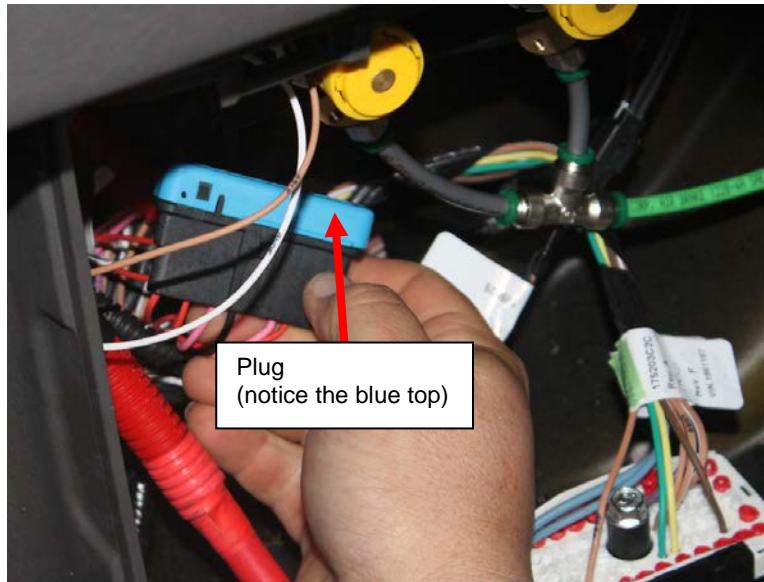

Figure 4: Plug and Locking Mechanism for Terminals.
3. Pull the plug at the rear of the opening, about 8 in. back from the opening, as far forward as necessary to modify the wiring. See **Figure 4**.